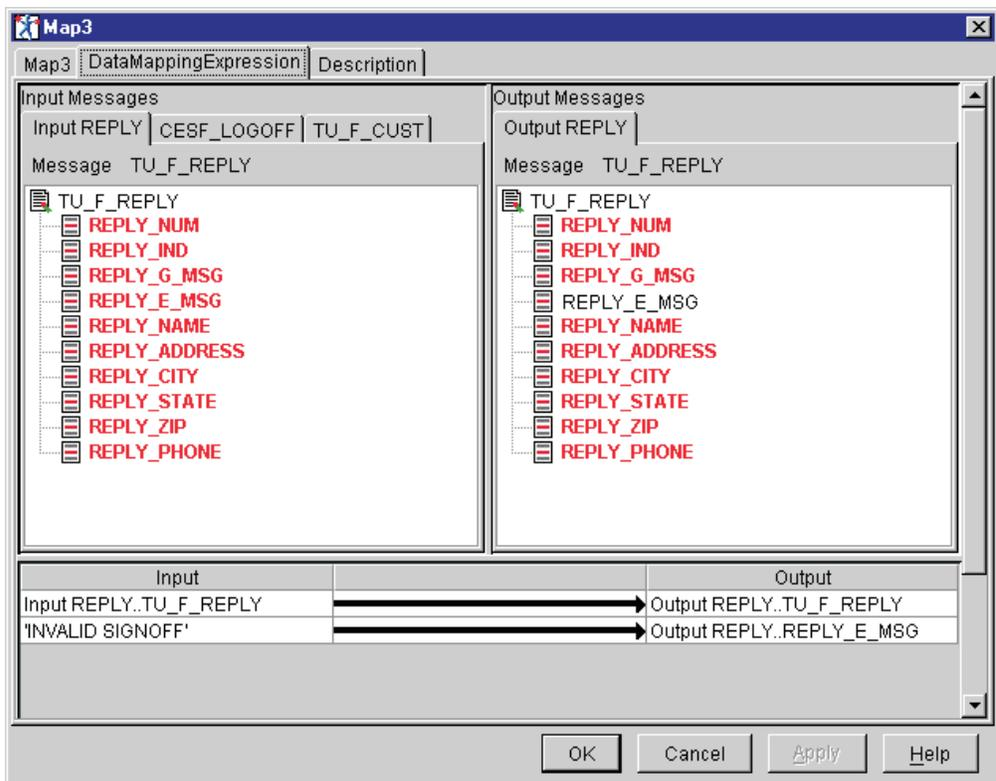

Figure 143. Mapping for Map3 node
- 3) Perform the mapping for the Map3 node as listed in Table 65 and shown in Figure 143 on page 186. On an Invalid Signoff condition, the mapper passes along the REPLY record and sets a message stating INVALID SIGNOFF.